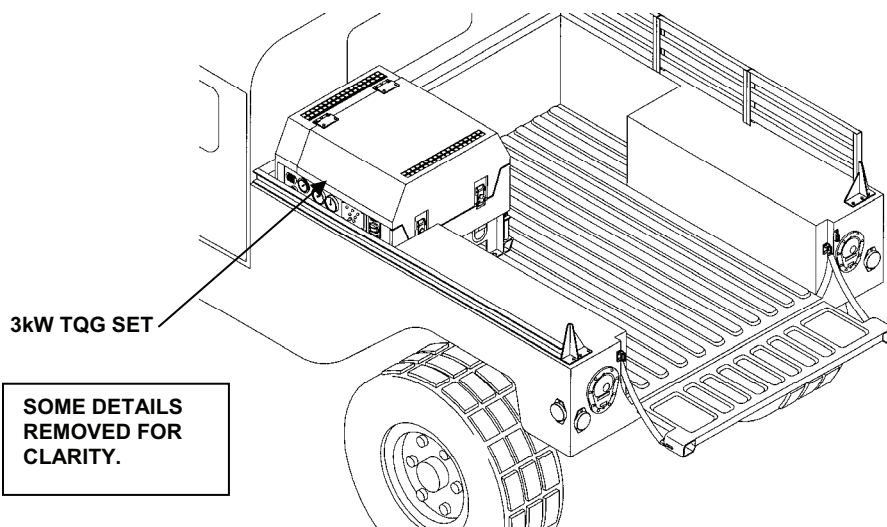

Figure 6. Loading Generator Set.
10. Place the 3kW TQG set to the front left side (driver's side) of the cargo compartment over the strap. See Figure 6.